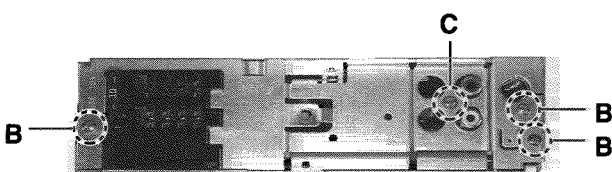

Fig. 4
■ Removing the rear panel (See Fig.4 and 5)